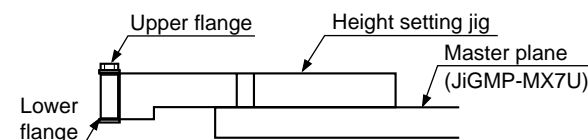

Figure 6
(1) Tu guide height presetting (Figure 6)